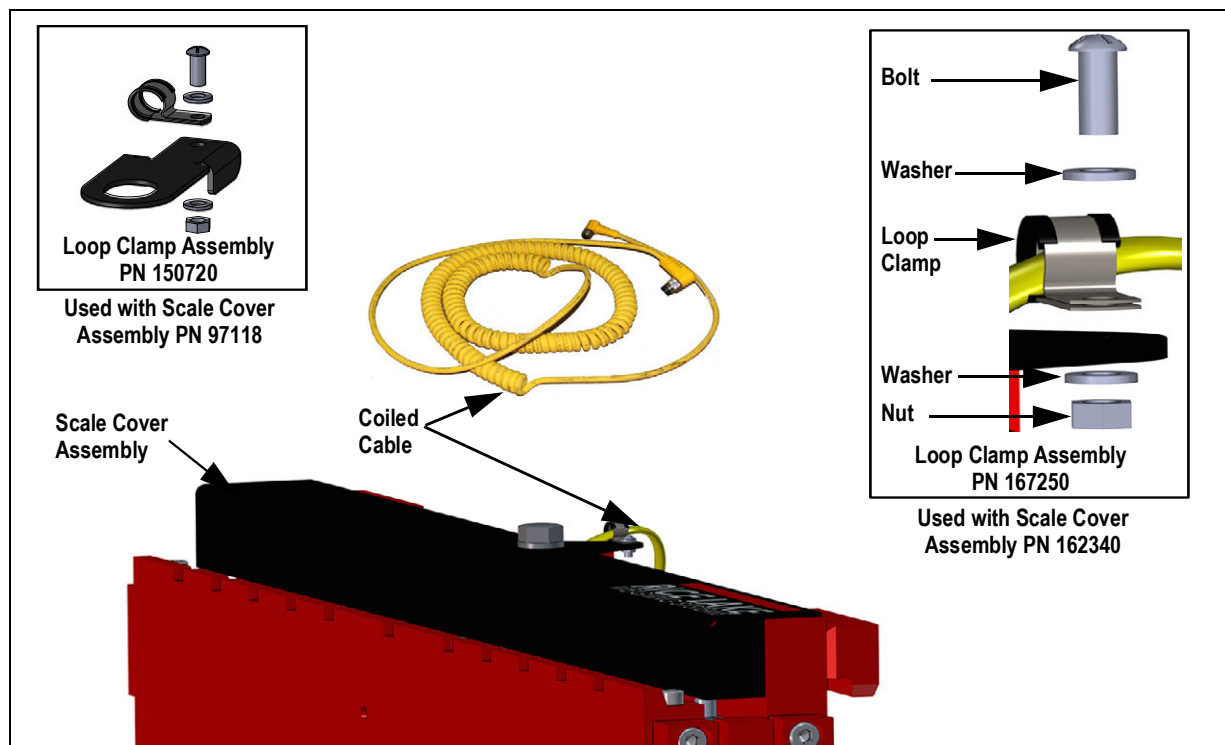

Figure 2-8. Connecting The Coiled Cable
6. Attach the bottom cleats to the bottom of the scale assembly (Figure 2-8), so the lip of the cleat is behind the scale carriage.